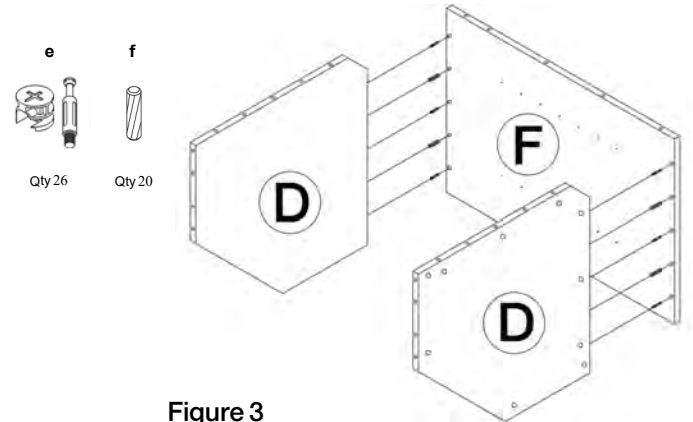

Figure 3
3. Install metal male cam locks (e) into designated holes on side panel (C) and bottom panel (D). Use screwdriver to tighten. Install the wooden dowels (f) into designated holes. (Figure 3)
4. Install the Top & Bottom panels (D) onto back side panel (F). (Figure 3)